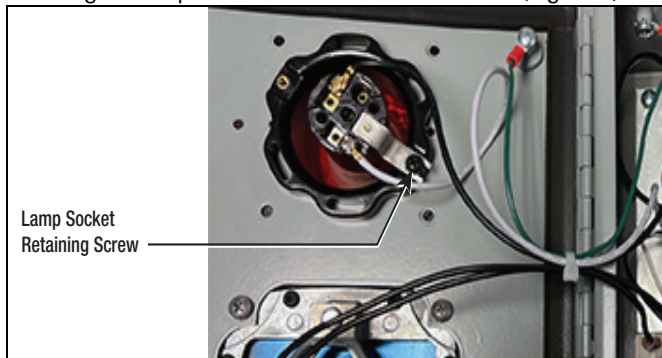

Figure 2. Remove Lamp Socket
2. Open the box door and notice the lamp socket in its mounting plate on the inside of the cover. Remove and set aside the screw holding the lamp socket to the inside of the door (Figure 2).